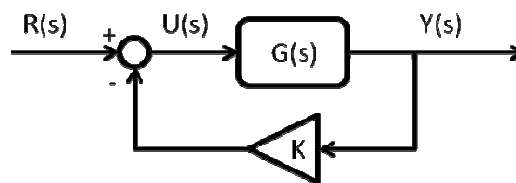

Fig. 2
- 2 a A feedback control system through a single feedback gain is shown IN Fig. 2 [6]